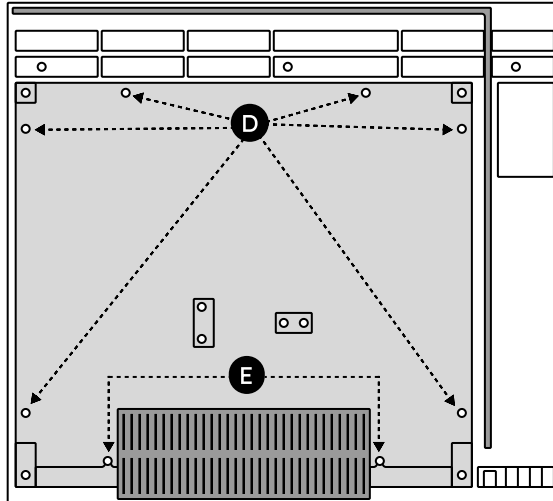

Figure 3 | Removing the inner plate
9. Remove the 6 screws **(D)** around the inner plate. The 2 screws **(E)** behind the panel heater element should not be removed or loosened. **(Figure 3)**
16. Replace the inner plate by sliding it onto the E screws, taking care not to damage the thermal insulation. Secure the plate with 6 screws **(D)**. **(Figure 3)**